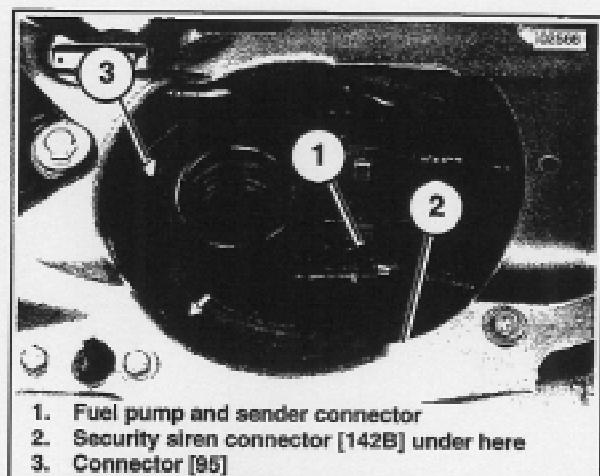

Figure 3. Locate Connector [142B] (VRSC Models)
5. See Figure 3. Locate the security siren connector (2), at the end of the harness that wraps around the top of the fuel tank. This is a 3-wire connector, not to be confused with the 2-wire connector (3) tied to the harness (except California models). Disconnect the fuel pump and sender connector (1) to free the security siren connector. The protective cap and wire tie on the security siren connector can be discarded.